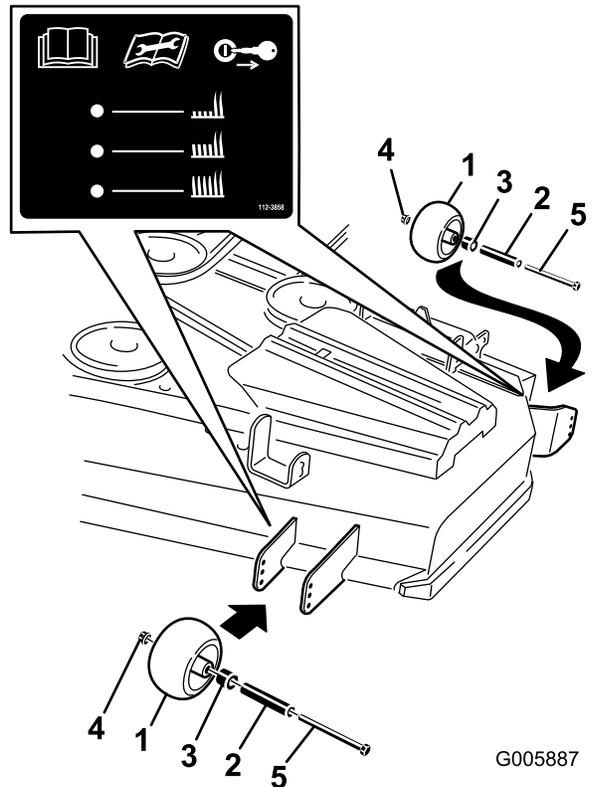
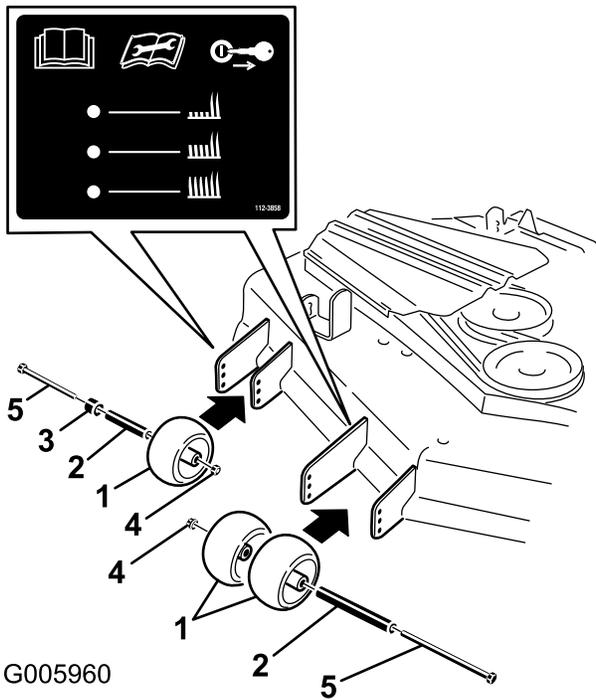

Figure 19
Figure 20
3. After adjusting the height-of-cut, adjust the rollers by removing the flange nut, bushing, spacer, and bolt (Figure 19 or Figure 20).
Note: The 2 middle rollers will not have a spacer (Figure 19 or Figure 20).
5. Install the flange nut, bushing, spacer, and bolt. Torque to 54-61 N-m (40-45 ft-lb) (Figure 19 or Figure 20).